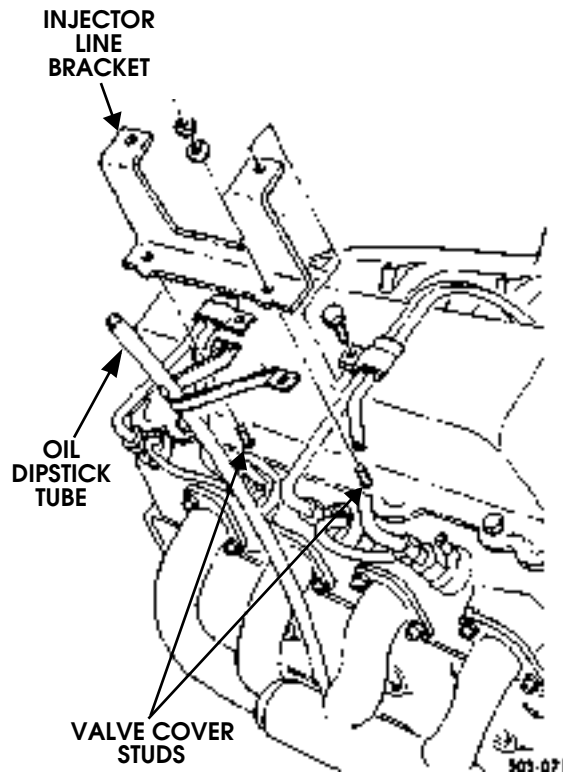

Figure 3-51: Injection Line Bracket Removal/Installation (Driver-Side)
2. Install bracket on valve cover studs (Figure 3-51). Tighten bracket nuts to 13-20 lb-ft (18-27 N•m).